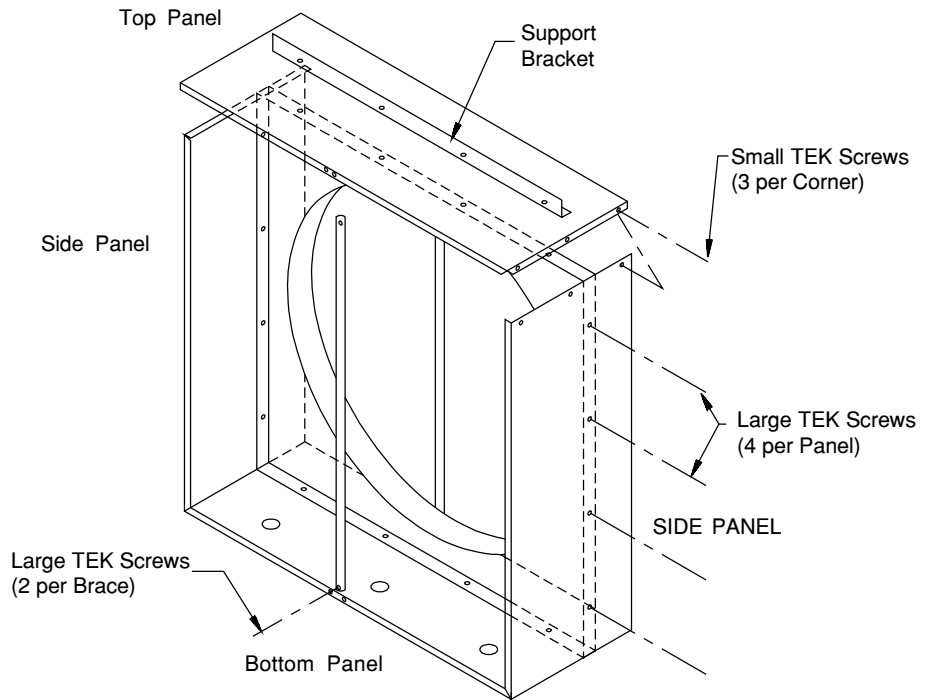

Figure 2
See Figure 2.
4) Attach top panel and support bracket to fan using same procedure. *See Figure 2.*
5) Install and tighten small TEK screws in the (3) holes along each corner of housing.
6) Lay fan down and install (4) of the large TEK screws in bottom panel.
8) Set fan up on bottom panel. Install front and rear guard braces as shown in *Figure 2*. Large TEK screws should be used. Two slots are provided near the center of each panel, but only one is needed.